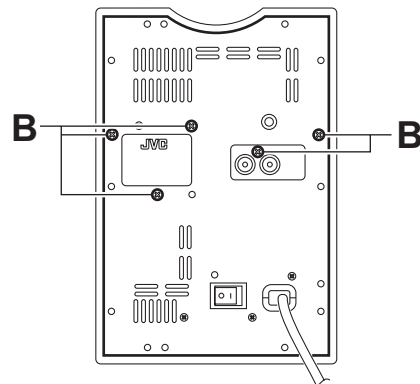

Fig.3
- (2) Remove the five screws **B** attaching the back panel. (See Fig.3.)